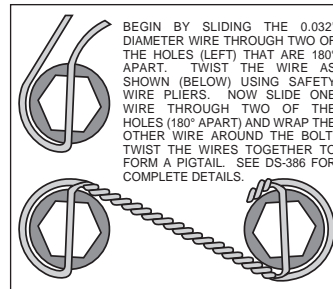

Figure 3. Safety Wire Diagram
- Orient the rotor (4) and the hat (5) as shown in Figure 1 and Photo 2. Attach rotor to hat using bolts (6) and washers (7). Using an alternating sequence, torque to 25 ft-lbs. For an added measure of security, the bolts may be safety wired using standard 0.032 inch diameter stainless steel safety wire as shown in Figure 3. Please refer to Wilwood's data sheet DS-386 (available at [www.wilwood.com/Pdf/DataSheets/ds386.pdf](http://www.wilwood.com/Pdf/DataSheets/ds386.pdf)) for complete safety wire installation instructions.